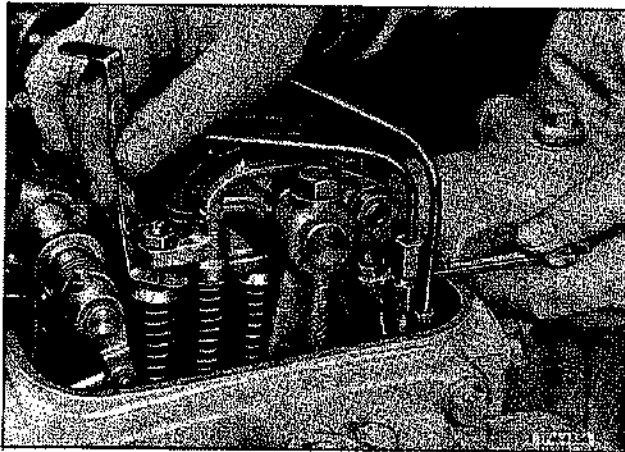

Figure 4—Valve Lash Adjustment (4-Valve Head)
4. Place .017" feeler gauge between valve stem and valve bridge adjusting screw (fig. 4). Adjust push rod to obtain a smooth "pull" on the feeler gauge.